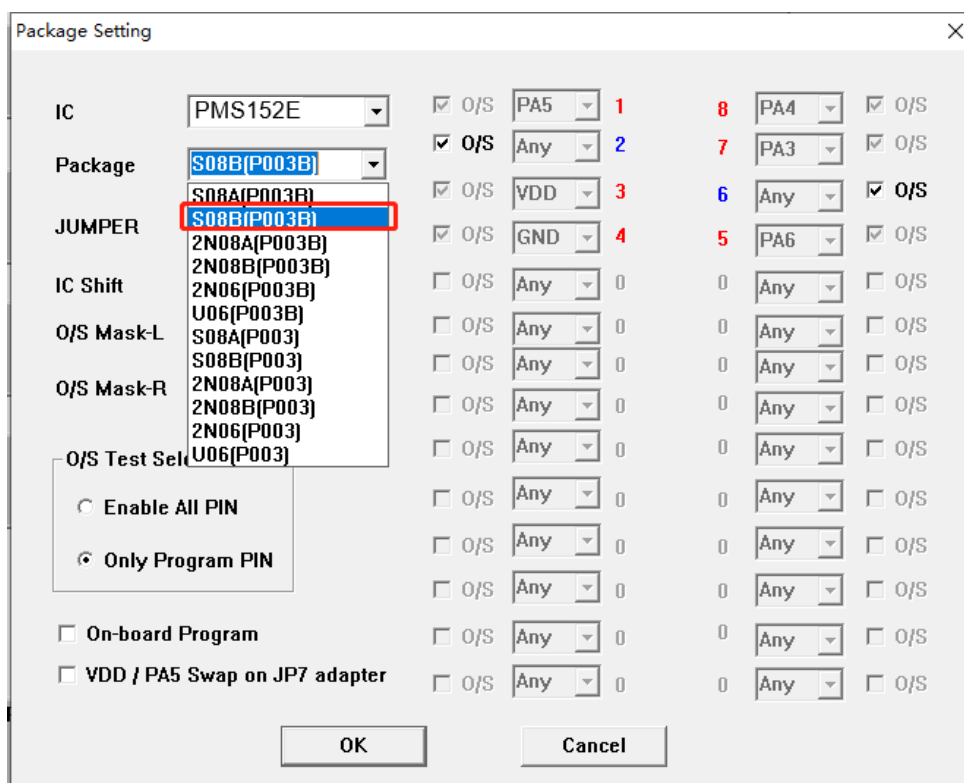

Fig. 28: PMS152E-S08B package setting when using P003B
1. For 5S-P-003B to write PMS152E-S08A, just use jumper2 and it needs downward four spaces on the Textool. Other packages need to convert the file and use jumper7. Taking the writing of PMS152E-S08B as an example, other packages only need to change the chip package and jumper7 connection in the "package setting" interface. The package settings are shown in Figure 28: